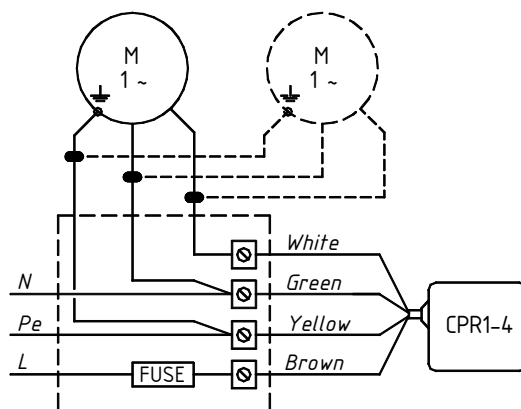

Fig. 3. Electrical connections
- Make electrical connections according to Fig. 3. To supply power and connect the motor, use a cable with a cross-section of at least 0.75 mm2 that complies with local electrical safety regulations. All cables must withstand operating temperatures up to +80 °C.